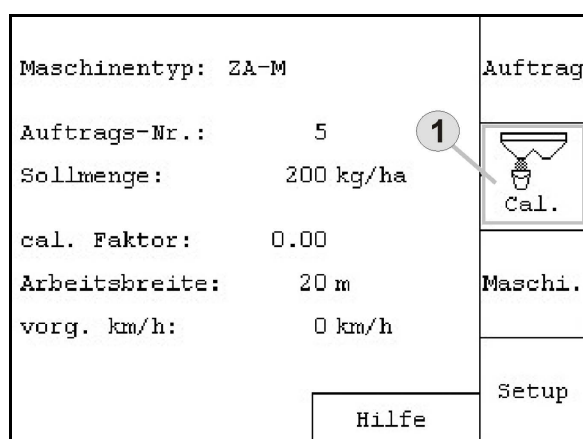

Fig. 65
1. Remove the wing nut (Fig. 65/1).